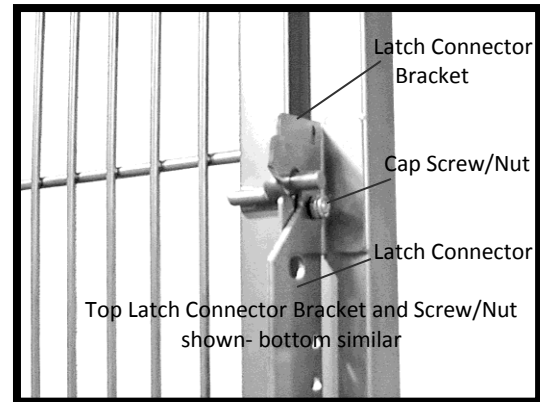

Figure 80: Removing Latch Connector
2. With a Phillips screwdriver and a 7/16 in. wrench, remove the two cap screws and nuts that hold the latch connector to the two latch brackets (Figure 80), and remove the latch connector.